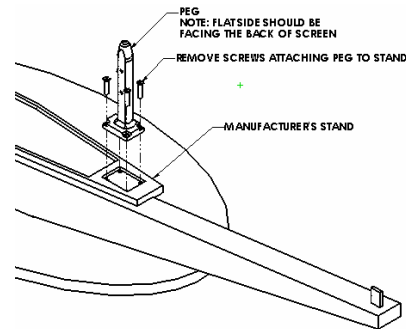

Figure 3
2. Remove threaded uprights (pegs) from manufacturer's table stand (see Figure 3).